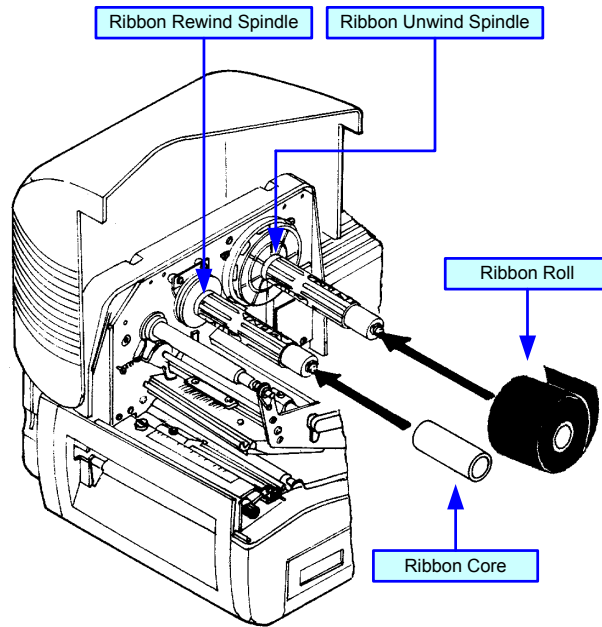

Figure 3-4c, Ribbon Loading
- 4 Insert ribbon roll onto the ribbon unwind spindle to unwind counter-clockwise (**Figure 3-4c**).